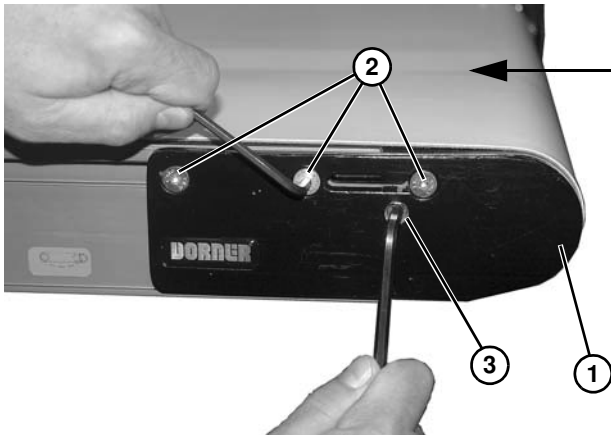

Figure 7
- b. On end drive of the conveyor, push in head plate assembly (**Figure 7, item 1**):
- On both sides of conveyor, loosen fastening screws (**Figure 7, item 2**).
- On both sides of conveyor, rotate cam tracking assemblies (**Figure 7, item 3**) to move head plate assembly inward.